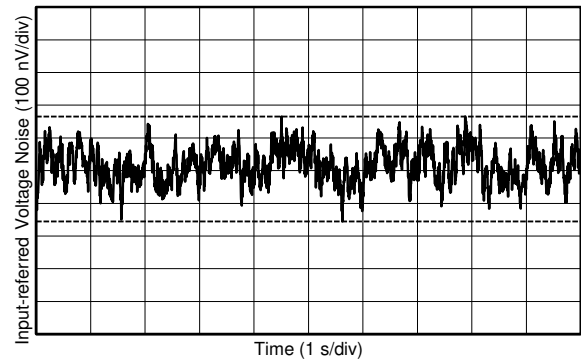

Figure 6-16. 0.1-Hz to 10-Hz Voltage Noise
0.1-Hz to 10-Hz Voltage Noise	Figure 6-16